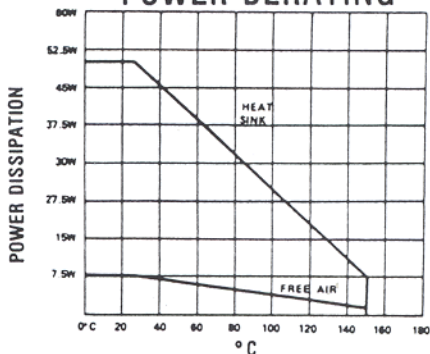
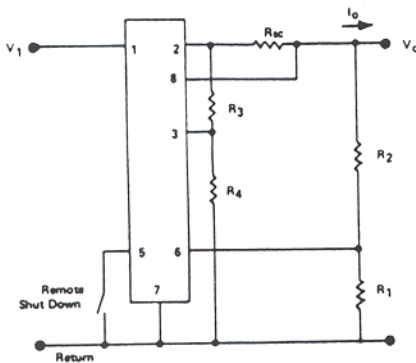
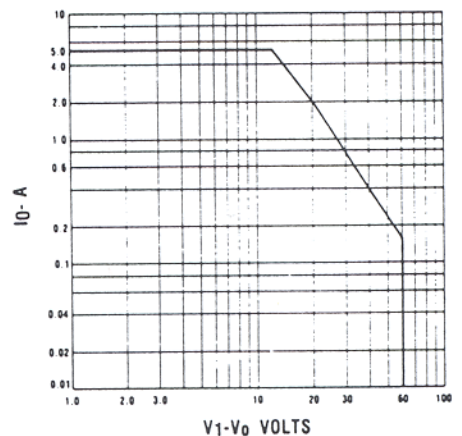

FIGURE 10
FIGURE 13
FIGURE 14
2. Current limiting capability is provided on the CJCA 007 and CJCA 008. R_{sc} may be selected to limit I_O and I_{sc} as shown in Fig. 13. The user must be sure that the dissipation rating is not exceeded in worst-case operation (see Fig. 10). Also, for $V_1 - V_O (= V_1$ for a shorted load) greater than 20 volts, a further limitaton is second breakdown of the pass transistor (see Fig. 14).